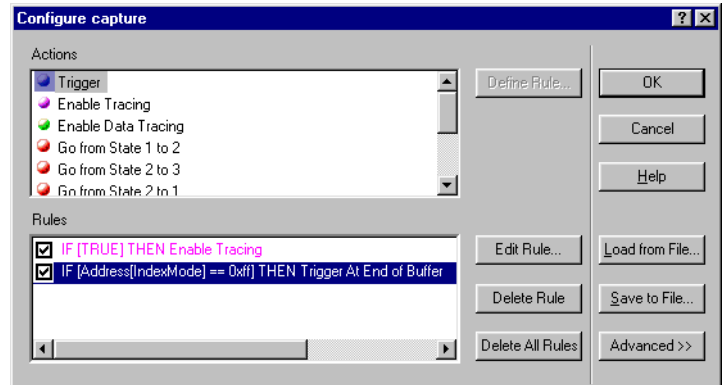

Figure 8-12 Completed Configure capture dialog box
11. Click **Finish** to complete the rule. The Configure capture dialog box shown in Figure 8-12 on page 8-15 now has two rules in the Rules list.